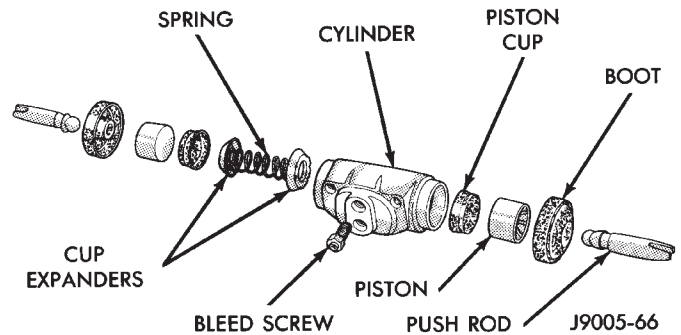

Fig. 56 Wheel Cylinder Components-Typical
- (1) Remove push rods and boots (Fig. 56).
- (2) Press pistons, cups and spring and expander out of cylinder bore.
- (3) Remove bleed screw.